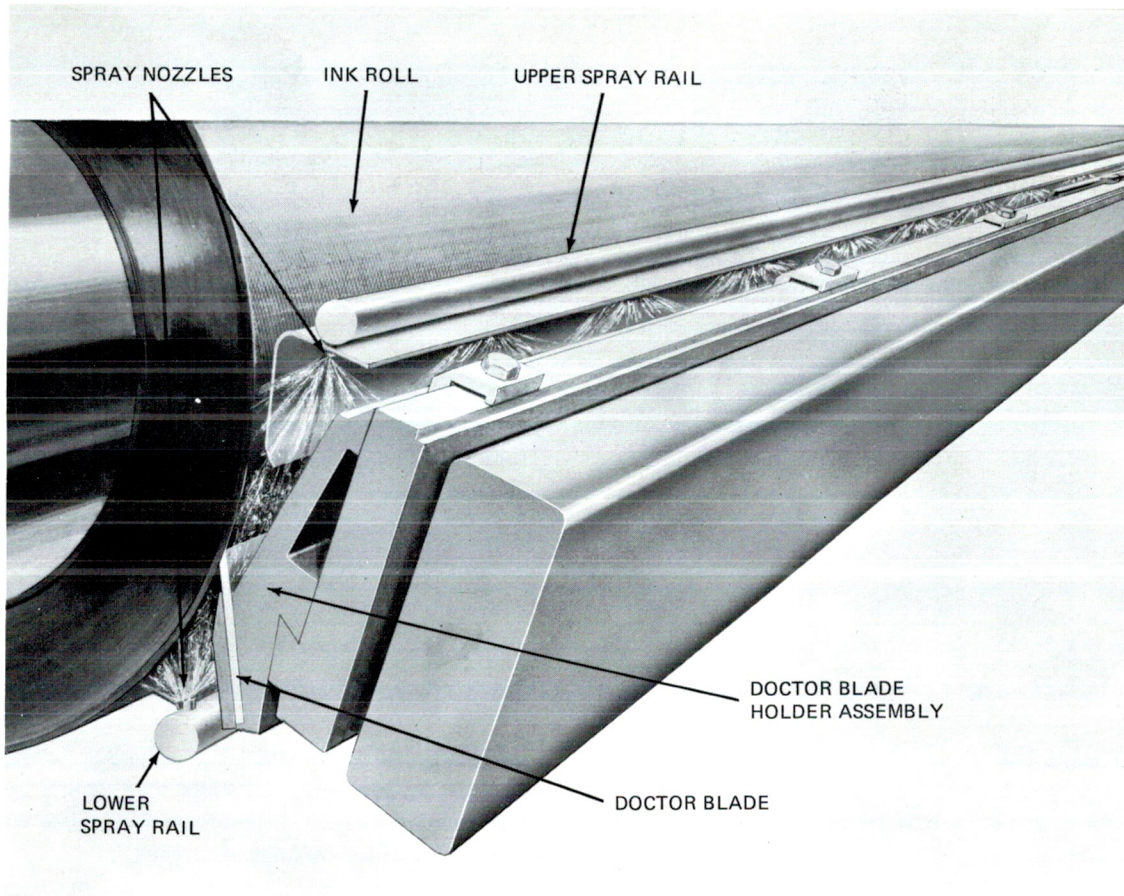

FIGURE 10-5. SPRAY RAILS AND NOZZLES
5. UPPER AND LOWER SPRAY RAILS AND NOZZLES (Figure 10-5)
The lower spray rail (Figure 10-5) runs across the width of the ink roll and doctor blade inside the ink trough. The lower rail has two rows of spray nozzles. One set of nozzles sprays perpendicular to the roll in an overlapping pattern as the roll rotates. The second set of nozzles sprays the underside of the doctor blade to prevent ink buildup.
The upper spray rail (Figure 10-5) runs across the top of the doctor blade and sprays the top side of the doctor blade and holder and the valley formed by the blade and ink roll.